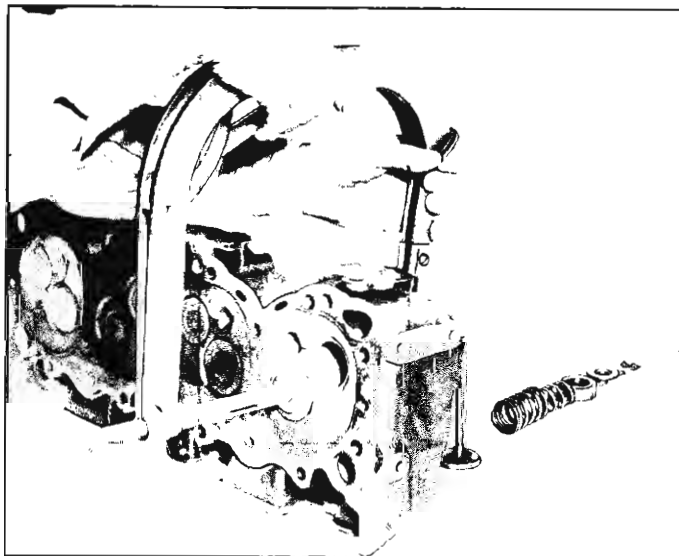

Fig. 117—Removing Valves
1. Place cylinder head assembly on its side on a bench and, using Tool J-8062, compress valve spring and remove valve locks. Release tool and remove cap, shield, spring, dampers and oil seal from valve stem. Repeat this operation on each valve (fig. 117).
3. Install cap and compress the spring with Tool J-8062 (fig. 117).